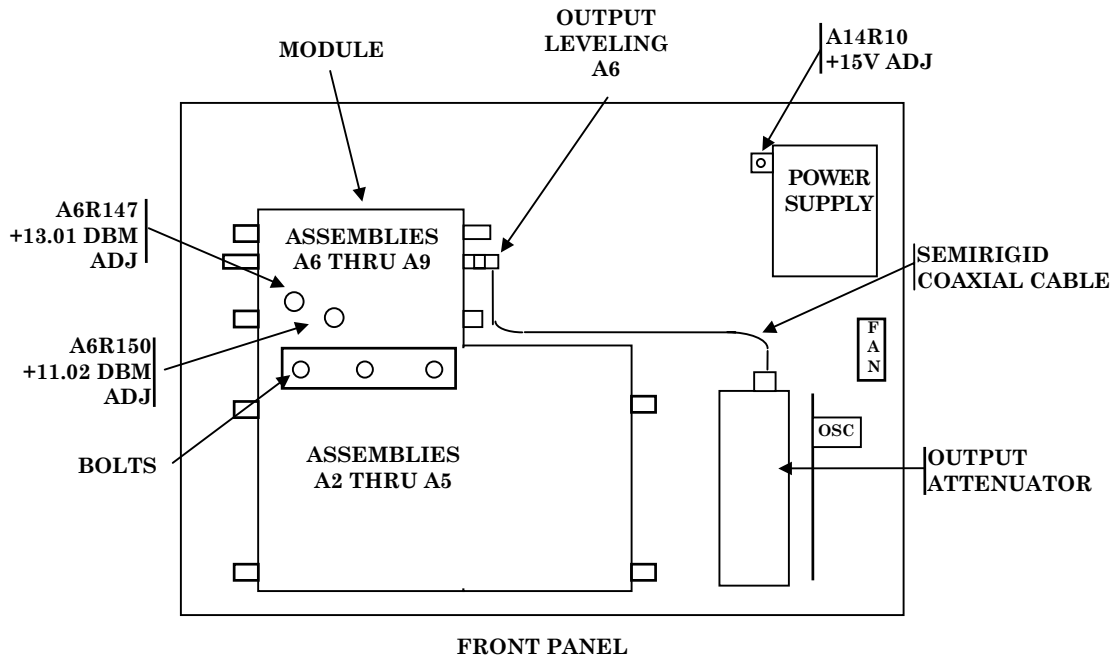
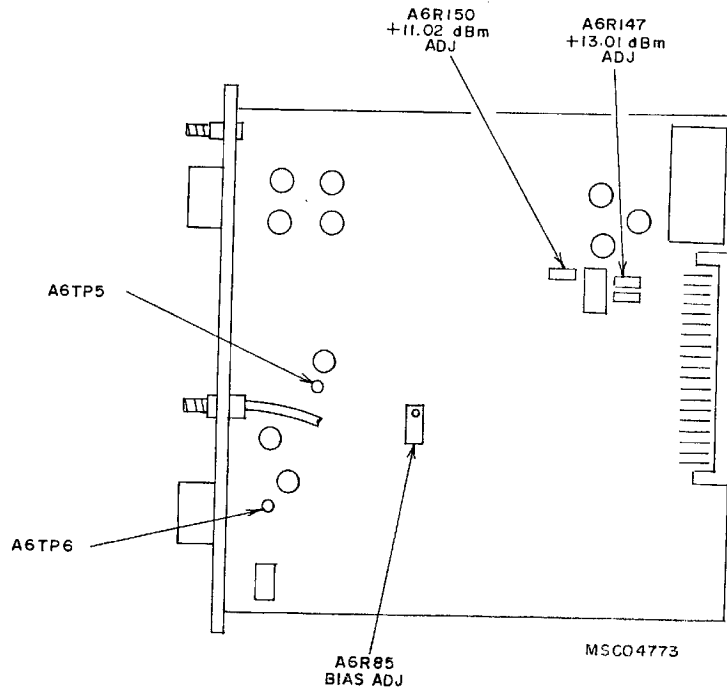

Figure 1. Test Instrument - top view.
Figure 2. A6 output amp/level control.
- (1) Press **ON-STBY/POWER** pushbutton to **OFF**.
- (2) Remove top cover.
- (3) Remove three bolts that hold module to chassis (fig. 1).
- (4) Remove semirigid coaxial cable (fig. 1).
- (5) Turn TI on side and remove module from chassis (fig. 1).
- (6) Remove assemblies A6 and A7 (fig. 1) and place on extender boards .
- (7) Install cable from A6 **OUTPUT LEVELING** to output attenuator (fig. 1).
- (8) Press **ON-STBY/POWER** pushbutton to **ON**, then press **10, kHz/+dBm, AMPLITUDE, 13.01, kHz/+dBm** pushbuttons.
- (9) Ground A6TP5 (fig. 2).
(10) Connect multimeter between A6TP6 (fig. 2) and chassis ground. Adjust **BIAS ADJ A6R85** (fig. 2) for 0 V \pm 0.01 V dc (R).
- (13) Remove extender boards and reinstall assemblies A6 and A7 (fig. 1) into module.
- (14) Replace module in chassis and secure.
- (15) Replace semirigid coaxial cable removed in (4) above.
- (16) Repeat **a** (1) above.
- (17) Press **ON-STBY/POWER** pushbutton to **ON** and allow TI to operate at least 30 minutes.
- (18) Press **10, kHz/+dBm, AMPLITUDE, 13.01, and kHz/+dBm** pushbuttons.
- (19) Adjust A6R147 (fig. 2) (+13.01 dBm ADJ) for 1 V +0.005 V ac on multimeter. Note and record the difference from I V (R).
- (20) Press **AMPLITUDE, 11.02, and kHz/+dBm** pushbuttons.
- (21) Adjust A6R150 (fig. 2) (+11.02 dBm ADJ) for a multimeter reading listed in table 5 corresponding to the difference recorded in (19) above (R).
(1) Assemblies A2 through A9 (fig. 1) must be installed before adjustments can be made.
b. Adjustments. Adjust A14R10 (+15 V ADJ) (fig. 1) for a 15 V dc indication on multimeter (R).